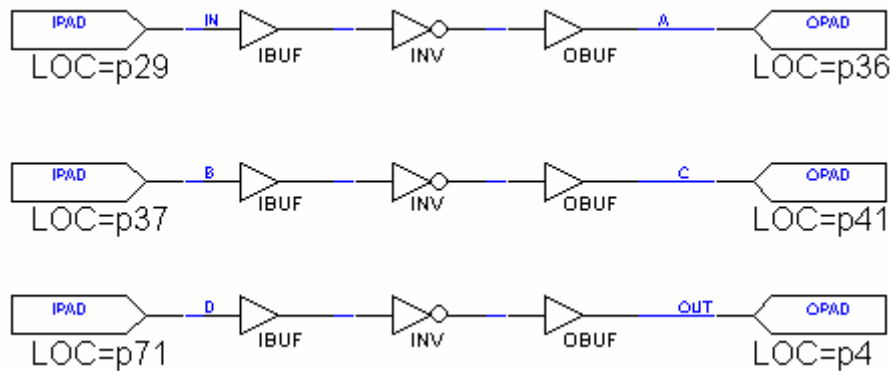

Figure 5.3
- Start a new schematic, where you will design a loop of 3 inverters connected externally through wires, similar to the one shown in Figure 5.3. Once you have designed the schematic of 3 inverters, assign pin number to each input and output pad. . Using a wire, connect p36 with p37, p41 with p71, and p4 with p29. Also notice that you will not be able to do functional or timing simulation of this design (Why?), so just download it to board and measure the delay between the first and last gate in the chain through oscilloscope. Also determine the frequency and propagation delay of each gate.